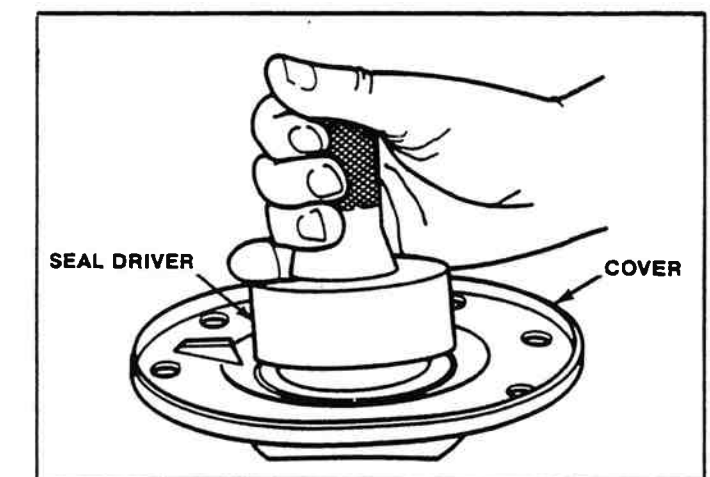

Figure 2-51. Installing Seal With Driver.
- Press the seal into cover until seal is flat against the bottom of bore. Use a sleeve or seal driver of the correct size that fits against the metal retainer of seal (Figure 2-51).
NOTE: If a press is not available, use a mallet and the sleeve or driver to install the seal (Figure 2-51).
- Apply Lubriplate or grease used for wheel bearings to the seal lips and cavities between lips (Figure 2-51).